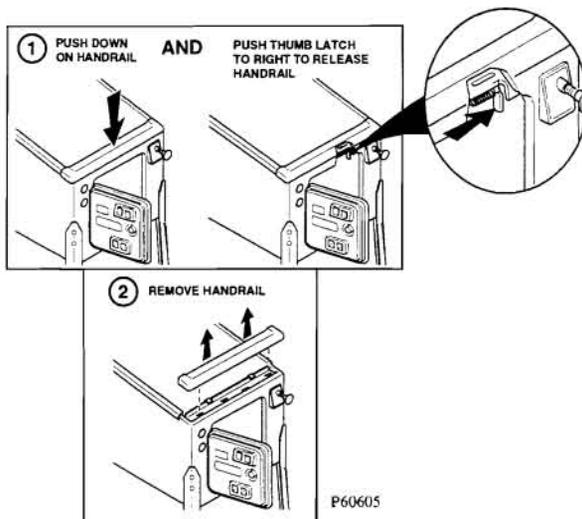

FIGURE 10: REMOVING HANDRAIL
19) Remove the handrail by opening the coin door and releasing the thumb latch (see Figure 10):